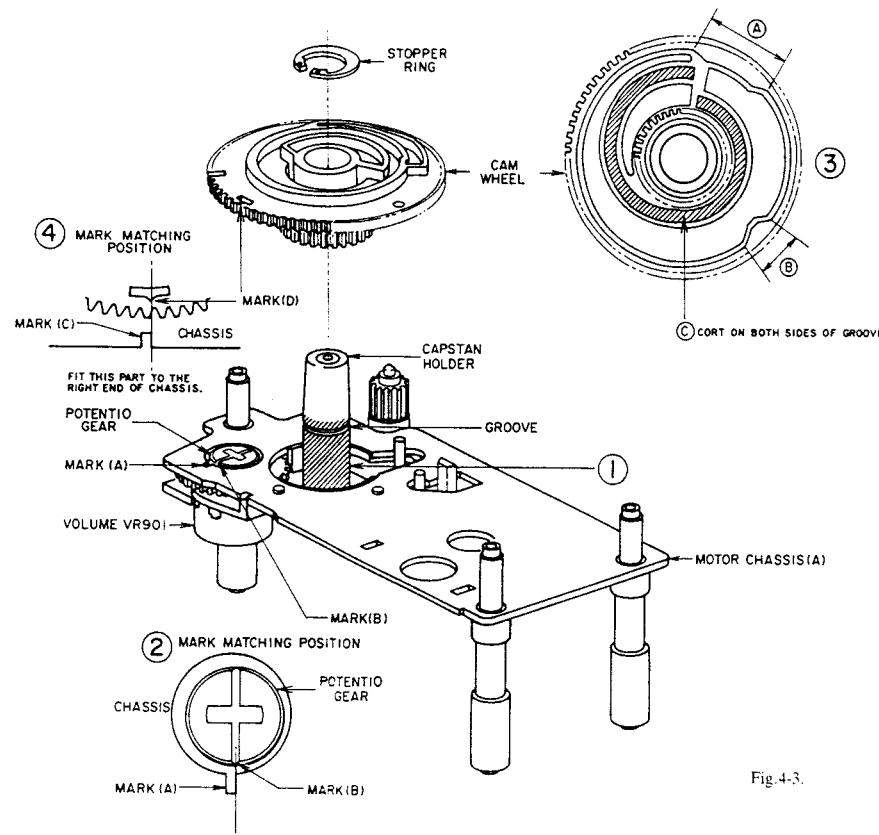

Fig.4-3.
Apply Molybdenum coat on the area of 360° from the bottom to the upside 2mm of groove as shown in the figure. (Fig.4-3-①)
- 3) Apply Molybdenum coat on the ③, ④ and ⑤ shown in the Fig.4-3-③
When the cam wheel is set properly, fit the center of Mark (D) to the right end of Mark (C). (Fig.4-3-④)